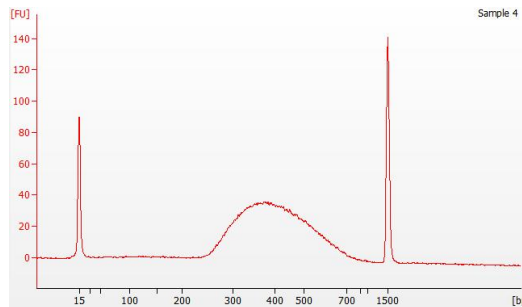
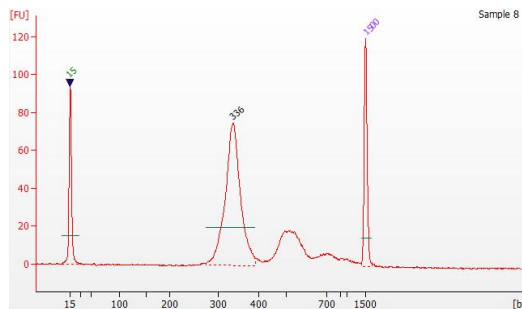

Figure 1. Example of FFPE DNA library size distribution on Agilent 2100 Bioanalyzer
Figure 2. Example of plasma cfDNA library size distribution on Agilent 2100 Bioanalyzer
2.7.2. Library fragment size QC: Assess the library quality with a recommended capillary electrophoresis analyzer and related kit. The peak size of the library fragment should be at ~ 380 bp for FFPE DNA/PC library and at ~ 330 bp for plasma cfDNA library, without obvious peaks of small and big fragments, as shown in Figure 1 and Figure 2.